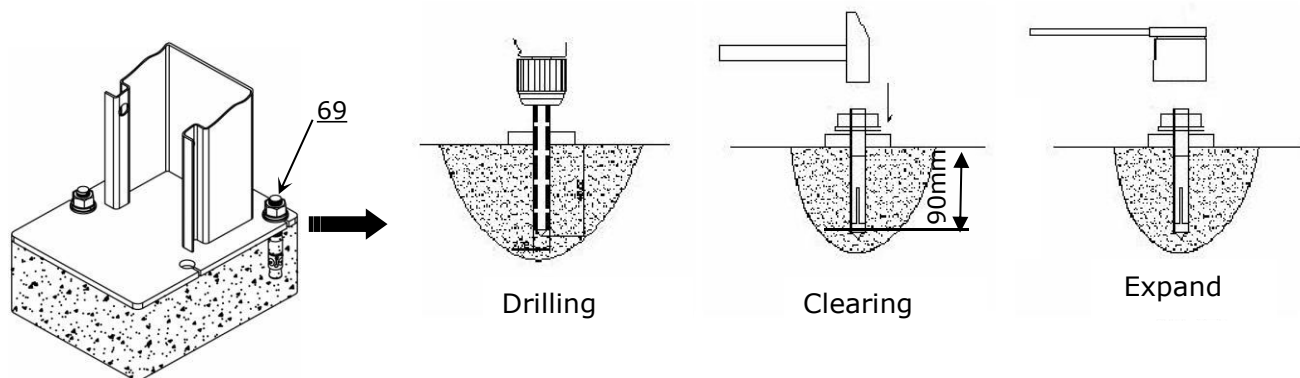

Fig. 38
2. Using the prescribed rotary hammer drill, and drill all the anchor holes and install the anchor bolts. Do not tighten the anchor bolts (**See Fig. 38**).